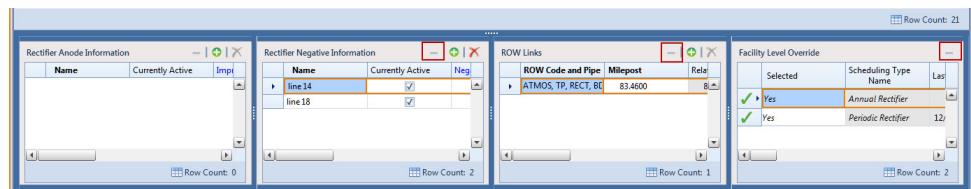

Figure 7-147. Rectifier Information Mini-grids
- If the *Rectifier Anode Information* mini-grid is not visible, double-click the **Rectifier Anode...** button  at the bottom of the window to open the mini-grid. Click the minimize button  in the upper right-hand corner of any other mini-grid to hide them (Figure 7-147).